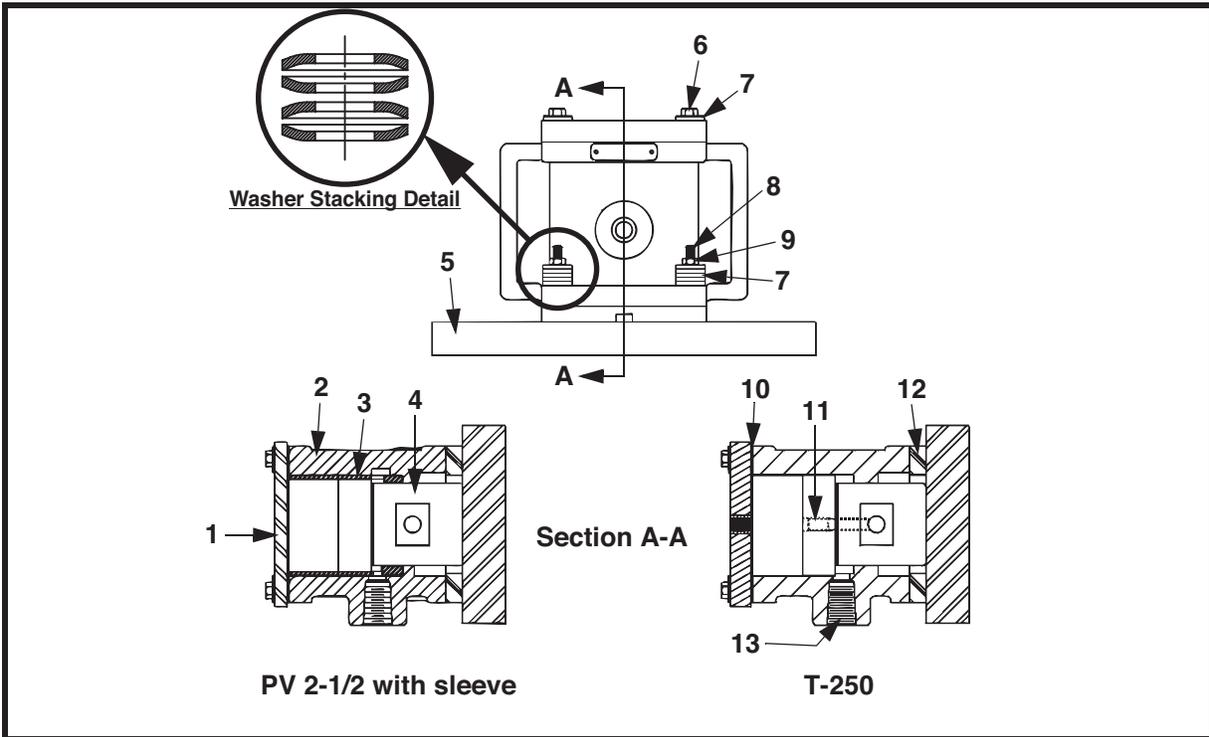

Figure 11. Martin® PV 2-1/2 with Sleeve (P/N 18581) Piston Vibrator or Thumper™ T-250 (P/N 19078) Timed Impactor Assemblies
- Martin® PV 2-1/2 Piston Vibrator Assembly with Sleeve:** P/N 18581. See Figure 11.
- Martin® Thumper™ T-250 Timed Impactor Assembly:** P/N 19078. See Figure 11.